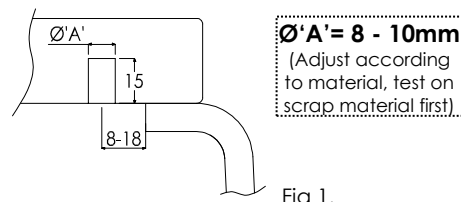

Fig 1.
3. When creating the cut-out aperture you should also create a series of holes in the reverse face of the worktop to accept the undermount bracket inserts. The holes should be sized and positioned away from the edge of the sink as shown in Fig 1. All brackets supplied should be used and spaced equally around the perimeter. Where the sink has long and short sides more brackets should be used on the longer sides.